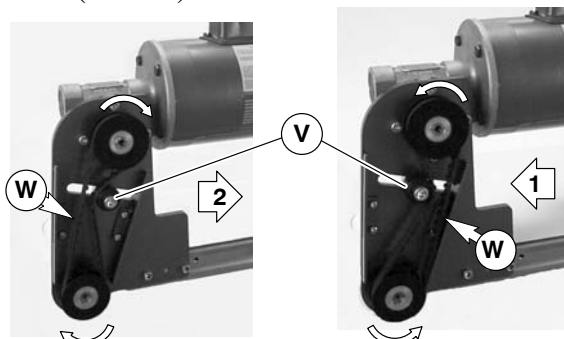

Figure 16
9. Depending on conveyor belt travel (direction 1 or 2 on Figure 16), locate timing belt tensioner (V of Figure 16) as shown. Tension timing belt to obtain 0.125" (3 mm) deflection for 1.0 lb (456 grams) of force at timing belt mid-point (W). Tighten tensioner screw to 103 in-lb (12 N-m).
3. Depending on conveyor belt travel (direction 1 or 2 on Figure 16), locate timing belt tensioner (V of Figure 16) as shown. Tension timing belt to obtain 0.125" (3 mm) deflection for 1.0 lb (456 grams) of force at timing belt mid-point (W). Tighten tensioner screw to 103 in-lb (12 N-m).
5. Depending on conveyor belt travel (direction 1 or 2 on Figure 16), locate timing belt tensioner (V of Figure 16) as shown. Tension timing belt to obtain 0.125" (3 mm) deflection for 1.0 lb (456 grams) of force at timing belt mid-point (W). Tighten tensioner screw to 103 in-lb (12 N-m).